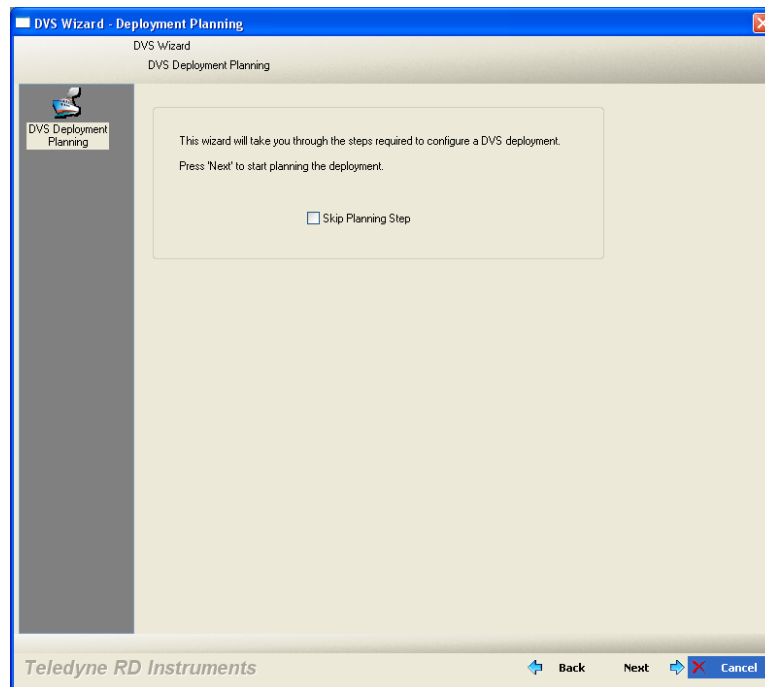

Figure 10. DVS Wizard - Deployment Planning
4. The first step is planning. If you want to skip this step, check the **Skip Planning Step** box (see Figure 10), or click **Next** to continue.